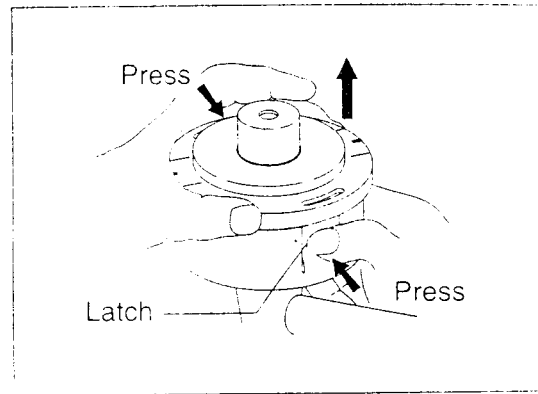

Fig. 44
1. Press the housing latches inward to lift off the cover; then remove the spool (Fig. 44).